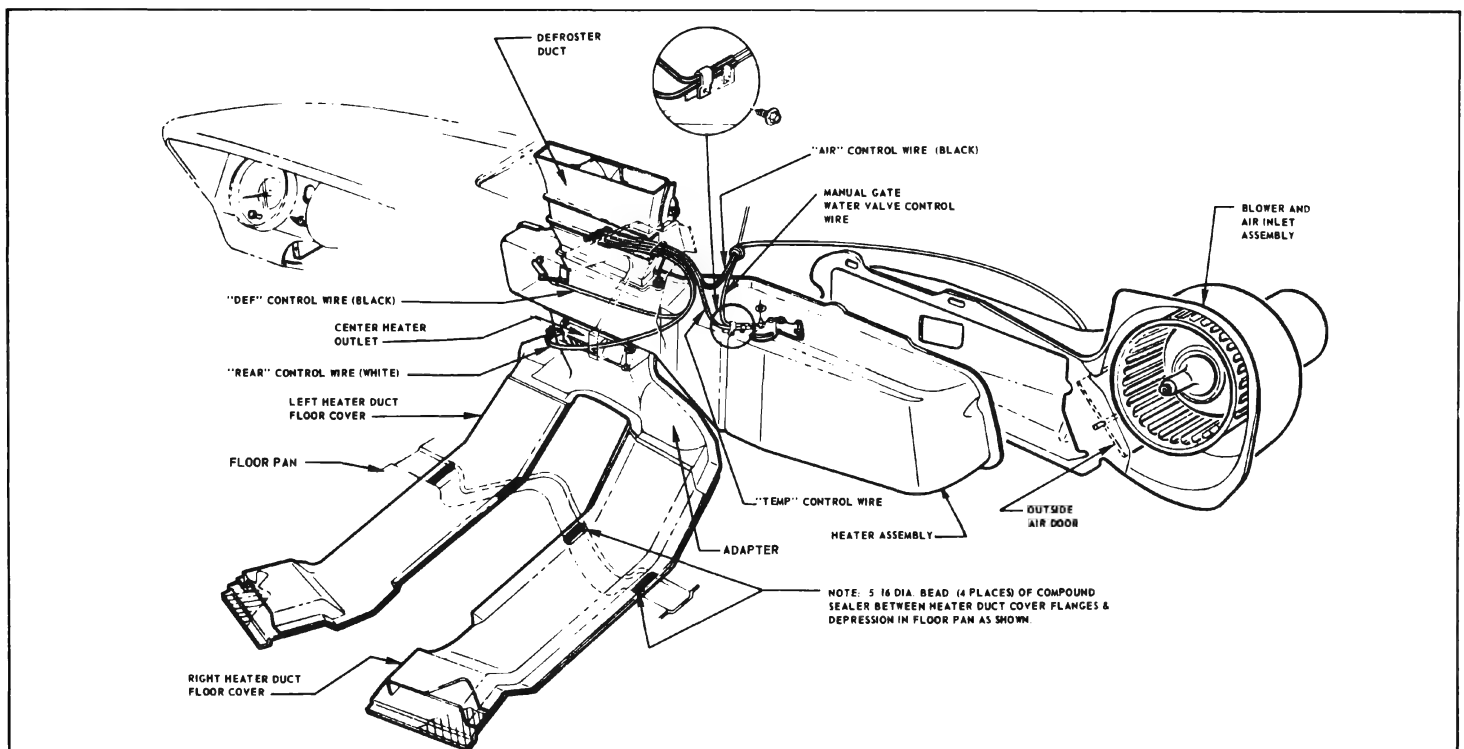

Figure 11-30—Heater System - 4400, 4600 and 4800 Series
The heater system consists of four major assemblies: (1) a blower and air inlet assembly (see Figure 11-30) which contains the blower fan and motor, and outside air door; (2) a heater assembly which houses the heater core, temperature door and defroster door; (3) right and left floor ducts, and also a floor duct adapter which houses the rear heat door; (4) a heater control
grille located on the cowl forward of the windshield (see Figure 11-34). The outside air passes through the air intake grille into the cowl air chamber, and then into the blower and air inlet assembly (see Figure 11-30). The air flows through the blower, past the open outside air door and to the heater assembly.